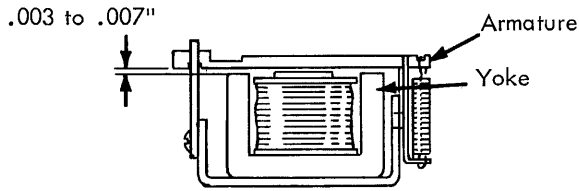

FIGURE 34.3 Armature Stop
3. Armature Stop (Late Style) - With the armature manually attracted, adjust armature stop for a clearance of .003" to .007" between the armature and yoke (Fig. 34.3).